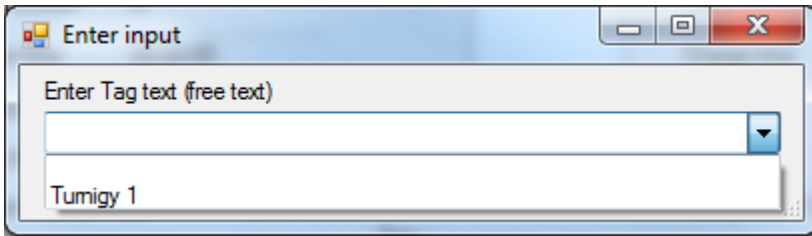

Figure 35
The tagging will store a "tag" or label for a certain charge into the database, it will suggest a list of tags already used, Figure 35, so you can use same tag for each charge with a particular battery, this way you can get a complete historical statistics of "that" battery, for example: how many cycles, how its Internal Resistance (IR) has evolved, how much you have taken out on average, etc.